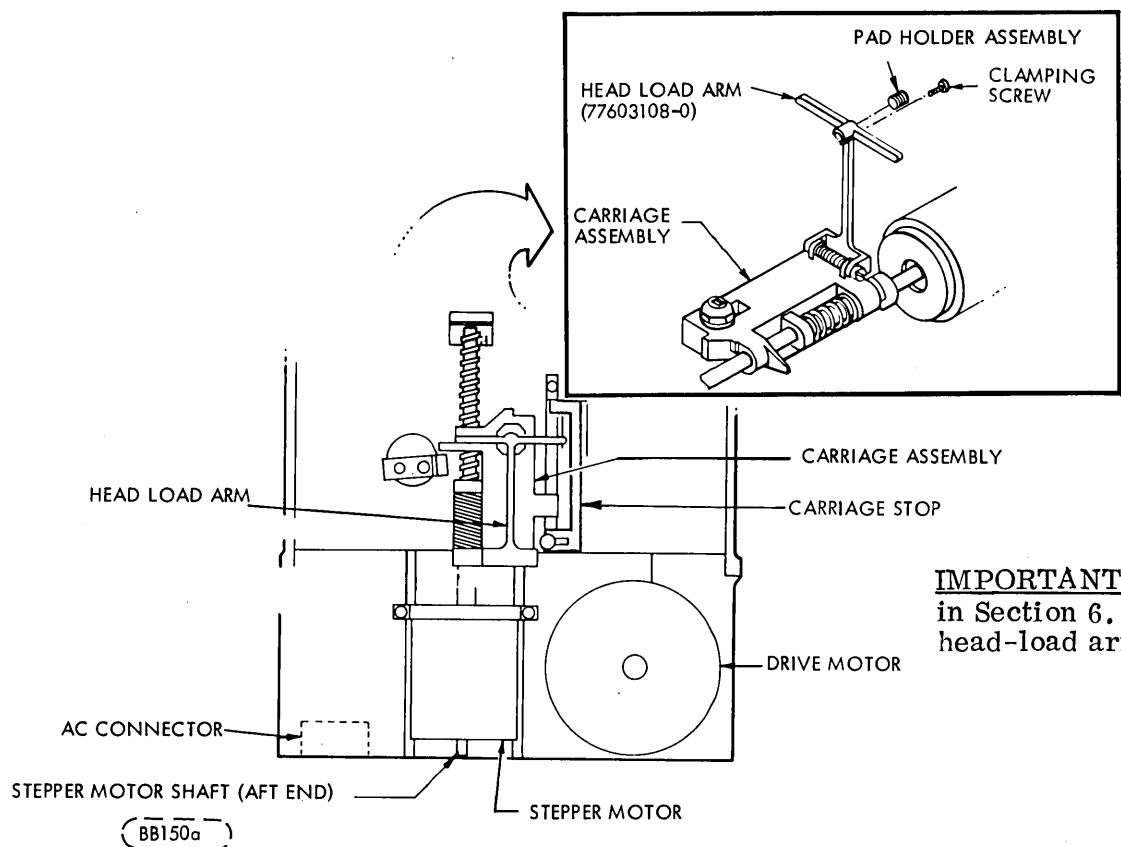

Figure 6-13. Head Load Pad Replacement Illustration
- b. Move the carriage assembly to its rear most position (toward the stepper motor) by turning the aft part of the stepper motor shaft (Figure 6-13.) This will provide clearance for lifting the head load arm.
- c. Lift the head load arm until the head load pad is visible (see Figure 6-13).
- d. If head load arm is a 77603108 (Figure 6-13) proceed to step h, if not go to step e.